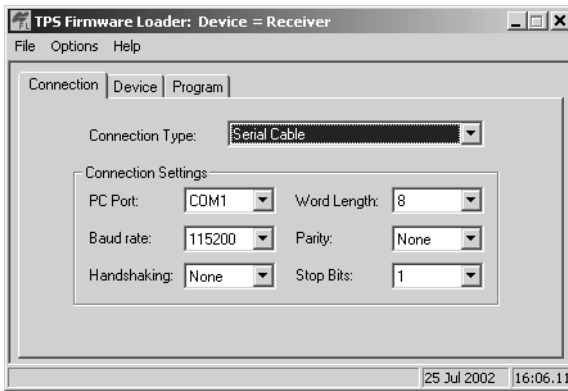

Figure 4-17. FLoader Main Screen
4. Activate FLoader (Figure 4-17).
5. On the Connection tab, select the COM port on your computer that connects with your receiver and select its speed (usually 115200) (Figure 4-17).